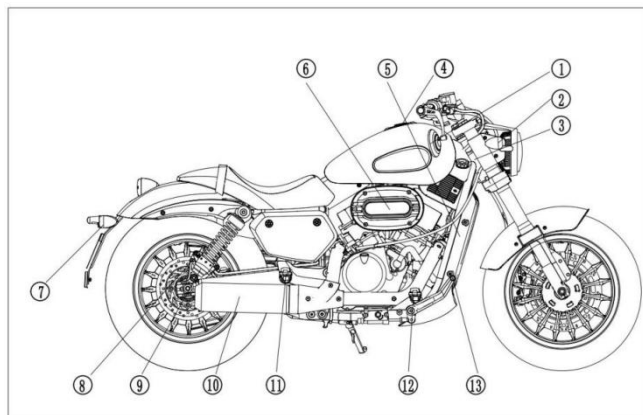
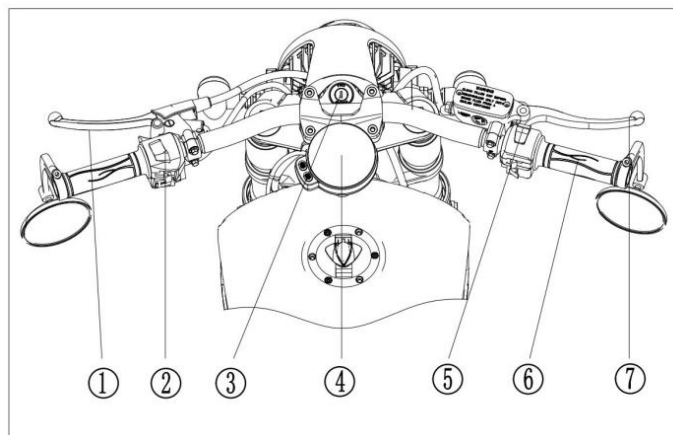

Fig.2
Fig.3
2. (Fig.2)
- ① R rear mirror
- ② FR turn single light
- ③ VIN
- ④ Tank cover
- ⑤ Nameplate
- ⑥ Air filter
- ⑦ RR turn single light
- ⑧ Rear brake clipper
- ⑨ Rear suspension
- ⑩ Exhaust muffler
- ⑪ RR pedal
- ⑫ FR pedal
- ⑬ Brake pedal
3. (Fig.3)
- ① Clutch Lever
- ② Left switch combination
- ③ Ignition switch
- ④ Instrument
- ⑤ Right switch combination
- ⑥ Throttle handle bar
- ⑦ Front brake lever